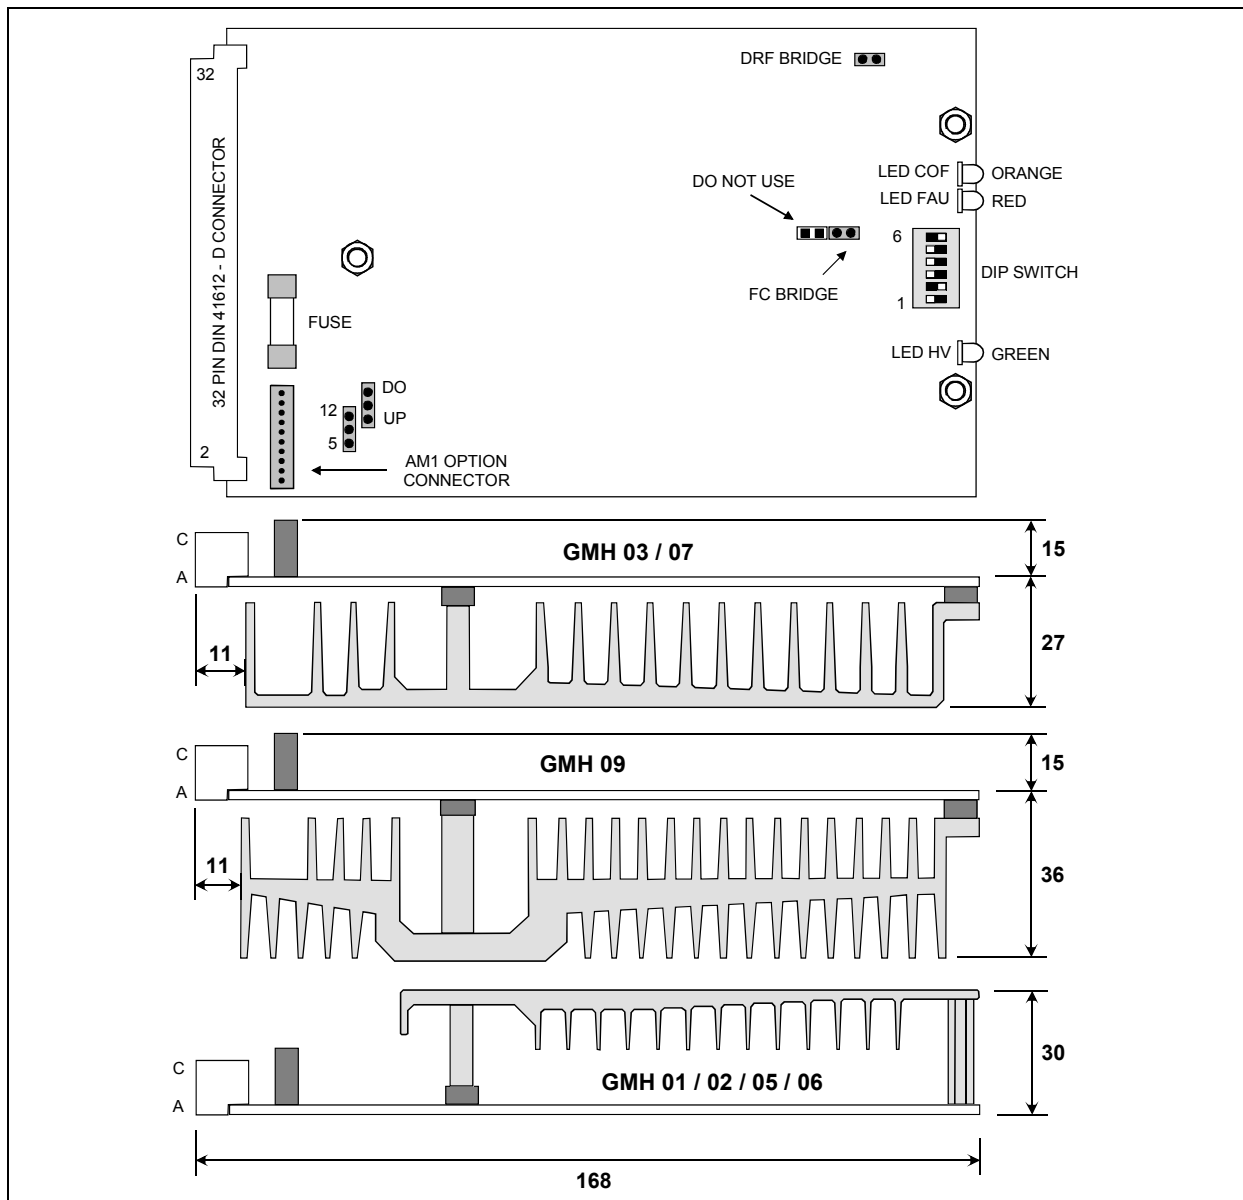

Fig. 3 ALL MEASURES IN MILLIMETERS – MOUNTING HOLES Ø 4 mm. (For use consult RTA)
6.2 - Fig. 3 shows the position of DIP-SWITCHES, bridges and signalling LEDs in GMH drives:
- 7.8 - F1 fuses must perform the protection of supply group. They have to be slow acting fuses (T or TT type), whose nominal current has to be chosen in accordance with supply dimensioning power. In order to clarify protection coordination problems take into account that the function of these F1 fuses is to protect supply circuit up to drive power input terminals. Protection of circuits after this point is ensured by electronic protections of the drive and, in case of drive failure, by another fuse (fast acting type, shown in fig. 3) located inside the drive and directly connected to positive terminal of power supply. F1 fuses could be also replaced with other protection systems (like for instance circuit-breakers) able to perform the function above described.